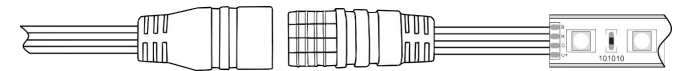

Figure 2
1. Use the enclosed socket with 150 mm connecting cable and plug it into the already soldered connector of the LED strip (Fig. 2).